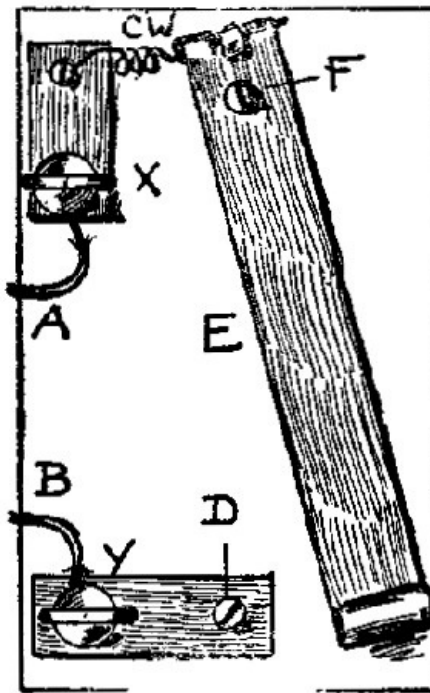

Fig. 24.
**55. Switch.** Fig. 24. This simple switch has but one contact point, *D*, which is a screw-head. This switch may be used anywhere in the circuit by simply cutting the wire carrying the current, and joining the ends of the wire to the binding-posts *X* and *Y*. The metal strip, *E*, is made of 2 or 3 thicknesses of tin. It is  $\frac{5}{8}$  in. wide and about 5 in. long, and presses down upon *D*, when swung to the left, thus closing the circuit. The short metal strips shown are  $\frac{5}{8} \times 1\frac{1}{4}$  in. The upper strip is joined to the end of *E* by a coiled copper wire, *CW*. (See App. 50.) If the current enters by the wire, *A*, it will pass through *CW*, *E*, *D* and out at *B*. The strip *E* is pivoted at *F* by a small screw. The base may be  $3 \text{ or } 4 \times 5 \times \frac{7}{8}$  in.